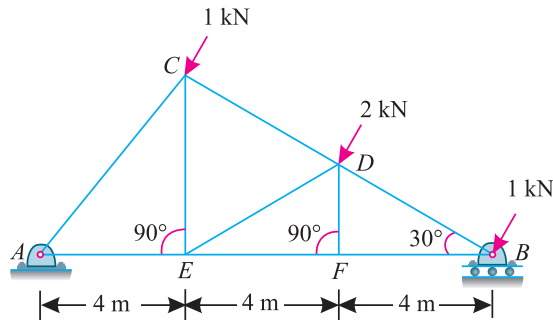

Fig. 14.47
**Example 14.19.** Figure 14.47 shows a truss pin-jointed at one end, and freely supported at the other. It carries loads as shown in the figure.